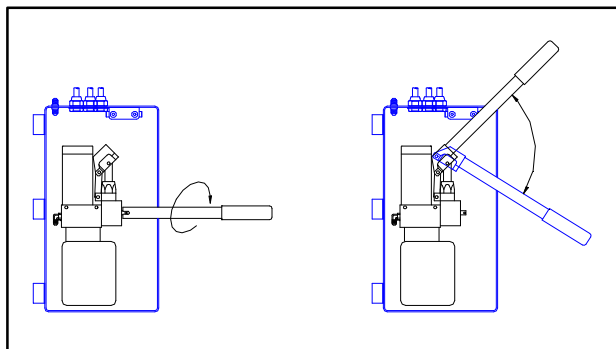

FIGURE 2-10: LIFT OPERATION – PLATFORM MANUAL RAISING
- ◆ Refer to **Figure 2-10**. Insert the pump handle extension onto manual backup pump release valve. Make sure the notches at the end of the handle are fully engaged by the release valve pin. Twist the handle **CLOCKWISE** until lightly-snug and remove.